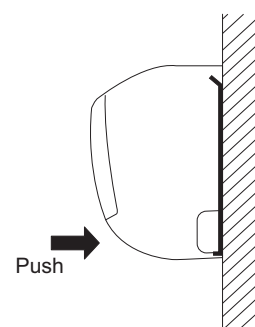

Fig. 2-251
- (1) To install the indoor unit, mount the indoor unit onto the 3 tabs on the upper part of the rear plate.
- (2) Hold down the air discharge outlet and press the lower part of the indoor unit until it clicks to securely fasten to the 2 tabs on the lower part of the rear plate. (Fig. 2-251)